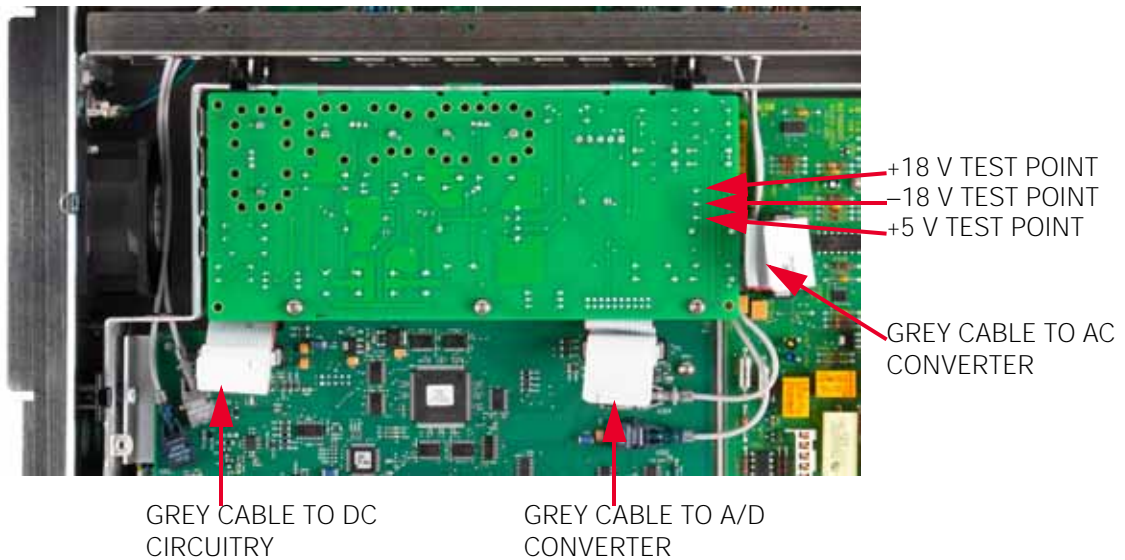

Figure 4-3 Inguard power supply
- 2 Refer to Figure 4-3. With the test digital multimeter, check for +5 V (± 0.13 V), +18 V (± 1.8 V), and - 18 V (± 1.8 V) at the test points shown in the figure.
- 6 Refer to Figure 4-3 to locate the gray 20-pin cable that connects the Inguard Power Supply (A4) assembly to the DC Circuitry (A1) assembly. Unplug the cable at the power supply assembly.